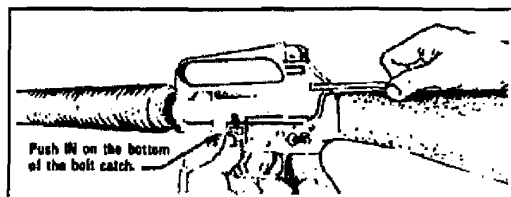

Figure 071-311-2027-6. Bolt locked to the rear.
- j. Push in on the bottom portion of the bolt catch, locking the bolt in the rear position (figure 071-311-2027-6).